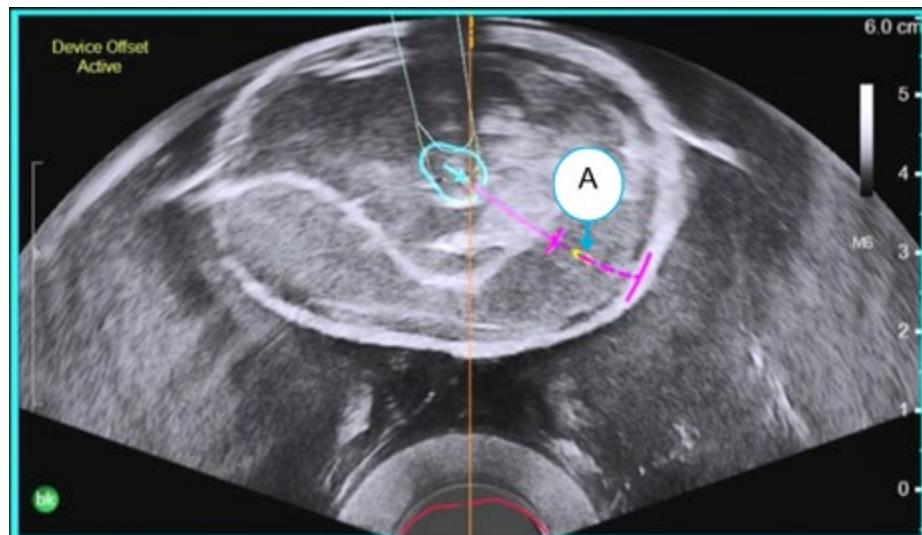

Figure 12-14: Projected Needle Path Crossing the Axial Plane
2. Press the Delivery Device Attachment **Stabilizer Power Switch (D)** to unlock the Delivery Device Stabilizer Arm.
4. Move the device in or out as needed so that the projected Needle path crosses the Axial Plane at the target location. A yellow dot will indicate this location on the Axial Plane (Figure 12-14).